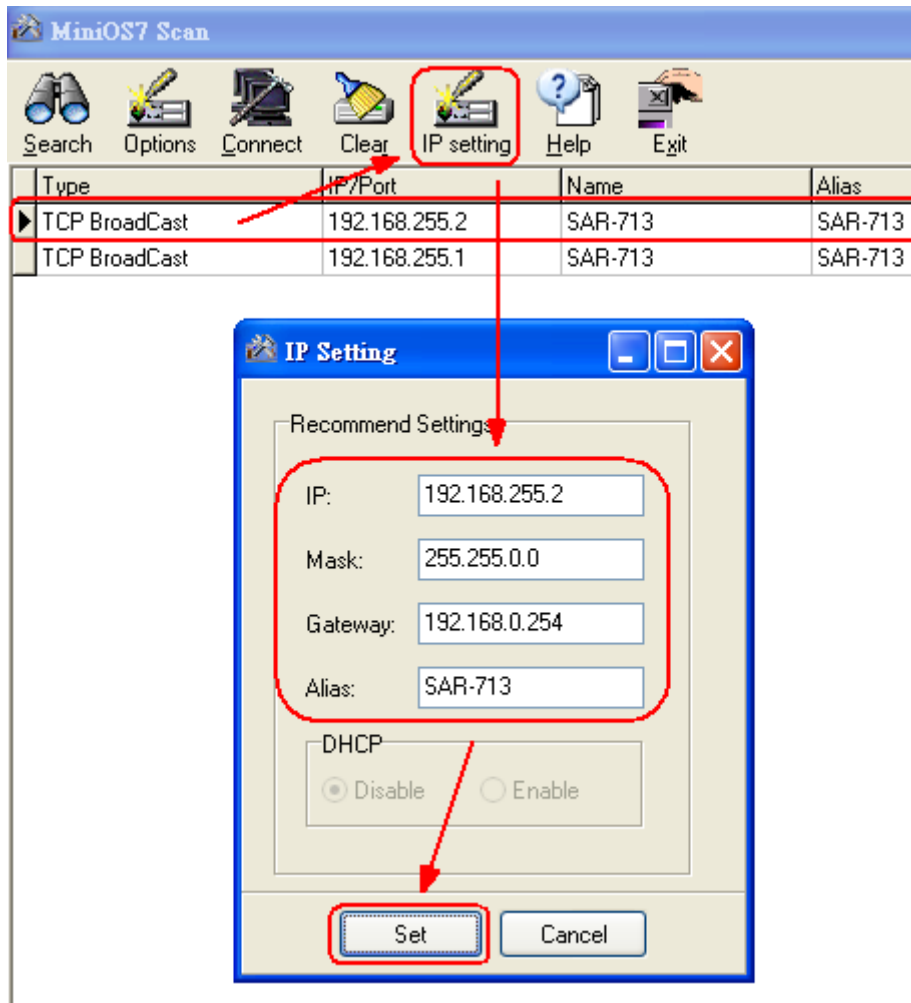

Fig 9.1-3 Network Parameter Setting
- (1) Choose the assigned SAR-713 module and click the “IP setting” button. It will open the network parameter setting screen like Fig 9.1-3 and remember to click “Set” button to enable the modification.